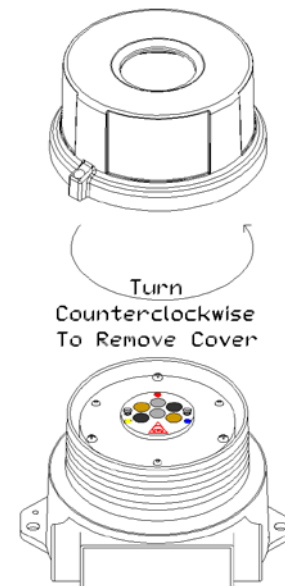

Figure 2-6
2. Turn counterclockwise (CCW) to unscrew the enclosure lid (see *Figure 2-6*).